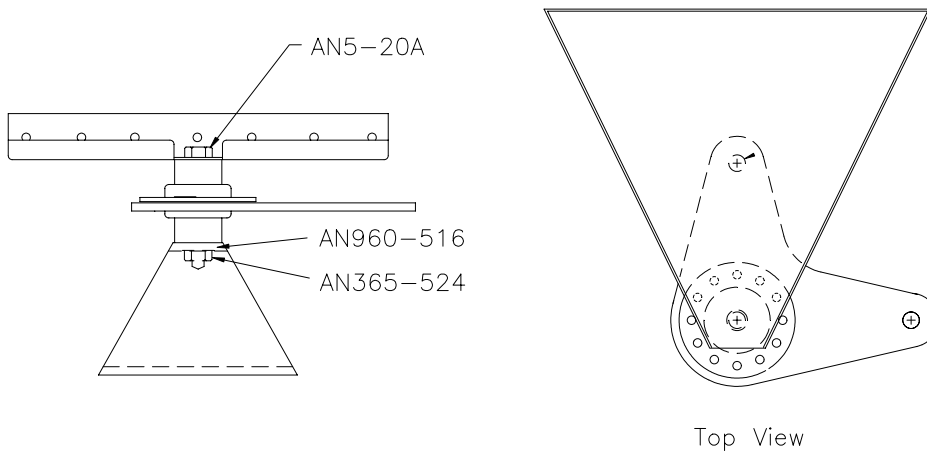

Figure 15.6.10
14) Bolt the Mixer Bell Crank and Bell Crank Spacers into place with a AN5-20A bolt. Figure 15.6.10.